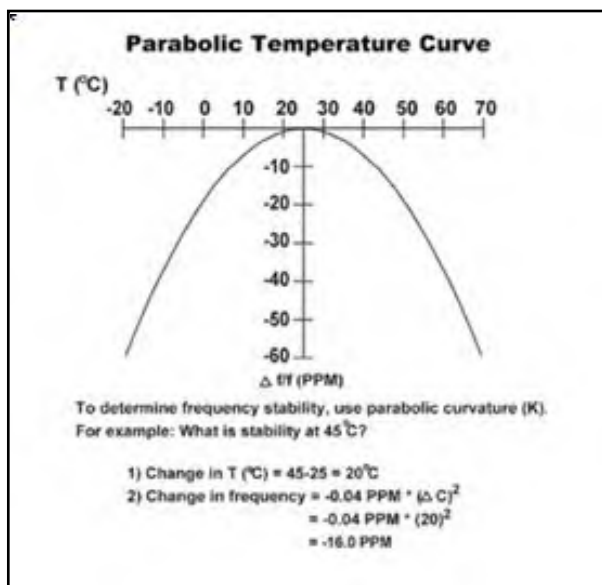

FIGURE A-1 Frequency Stability vs Temperature
-10 °C to + 50 °C	+0, -5 s (±50 ppm) See FIGURE A-1